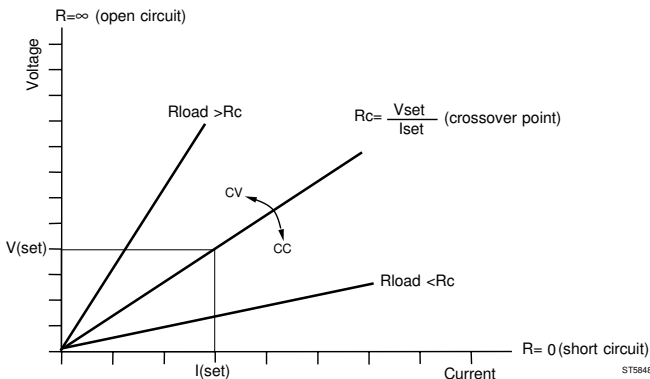

Figure 5.5.7 Power Output Crossover Point
- If R_{load} increases from 8Ω to 16Ω , then $R_{load} > R_c$, so the output channel goes into the CV mode (refer to figure 5.5.7). This means that $V_{load} = 8V$ and I_{load} becomes $8V/16\Omega = 0.5A$.
- If R_{load} decreases from 8Ω to 4Ω , then $R_{load} < R_c$, so the output channel goes into the CC mode (refer to figure 5.5.7). This means that $I_{load} = 1A$ and V_{load} becomes $1A \times 4\Omega = 4V$.